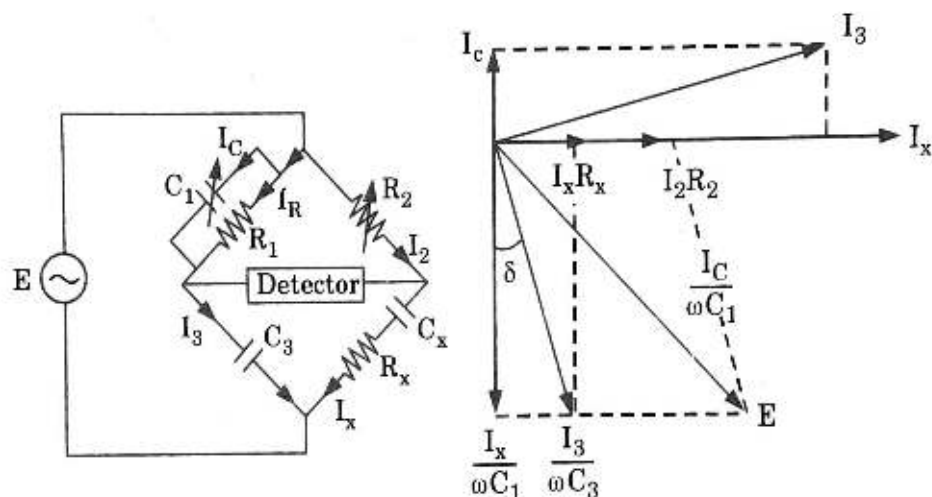

Fig. 3.16.1. Schering bridge.
3. Fig. 3.16.1 shows basic circuit arrangement.